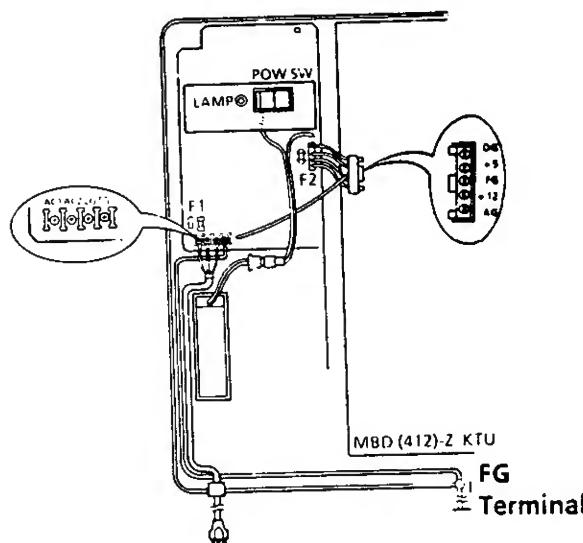

Figure 200-53 PSZ-8-1 Connections
2. The connector from the PSZ-8-1 unit to the battery is not connected at the time of shipment. Figure 200-53 shows the location for these connections.